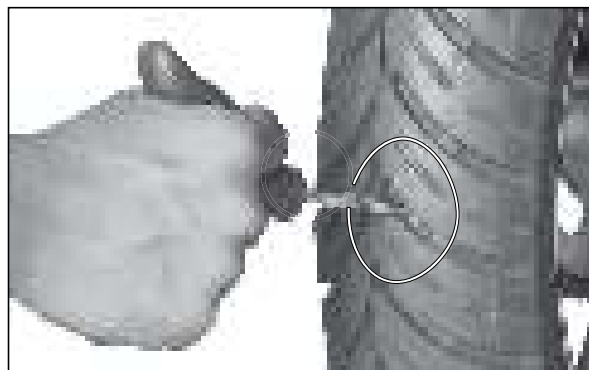

Fig. 6.104
- Insert the reaming tool exactly into the punctured point and carefully ream the punctured hole. (Fig. 6.104)